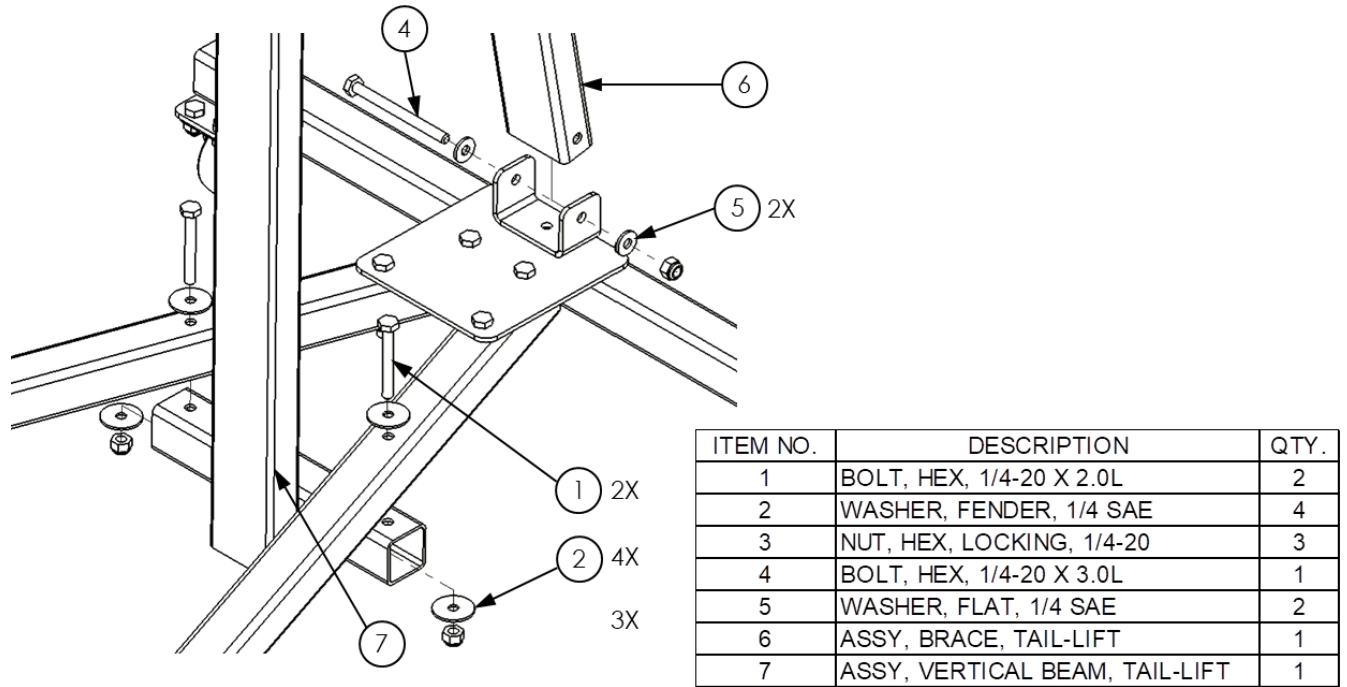

Figure 2
Beam Mounting (Figure 2)
1. Slide Brace Beam Assembly (Item 6, Figure 2) into the Vertical Beam Assembly (Item 7, Figure 2).
2. Install bolt (Item 4, Figure 2). Do not tighten this bolt/nut at this time.